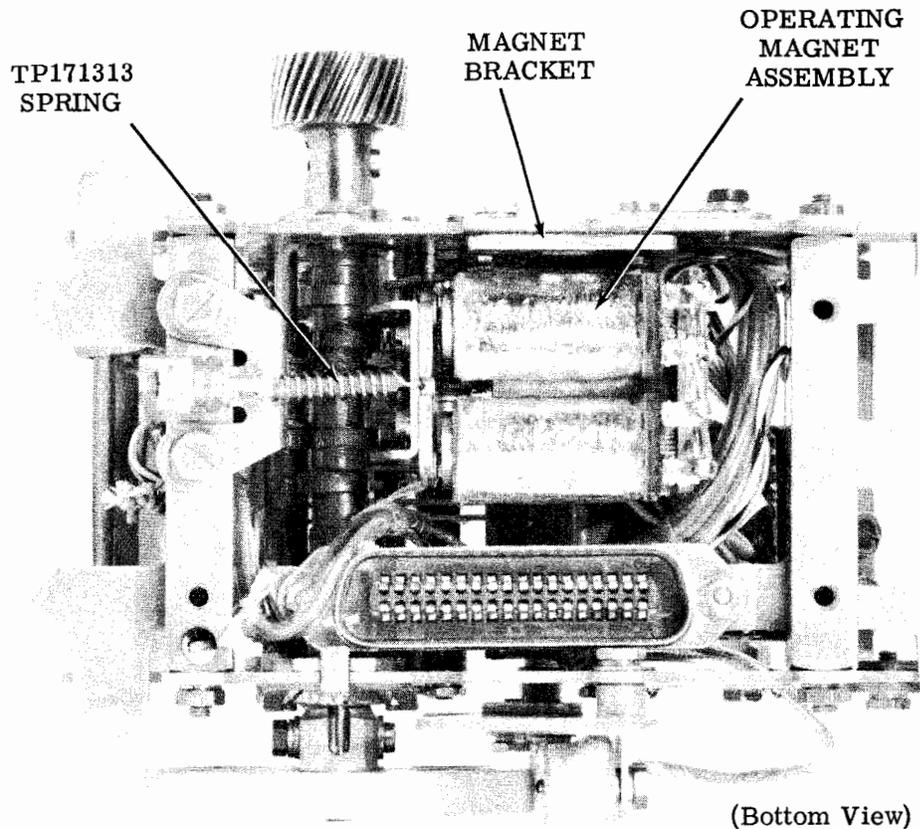

Figure 5 - Tape Reader Unit
- (1) Unsolder and disconnect the two color-coded leads (white, black, yellow and black, yellow) from the magnet terminals.
- (2) Disconnect the TP171313 armature spring from the TP170749 armature extension. See Figure 5.
- (3) Remove the TP156740 screw, TP2191 lockwasher, TP7002 flat washer, and TP150964 shoulder screw which secure the magnet bracket to the rear plate.
- (4) Remove the operating magnet assembly with its bracket from the reader.